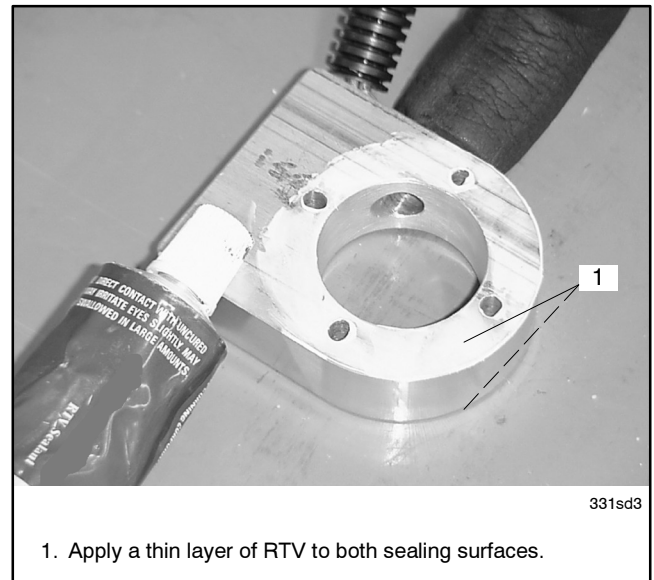

Figure 9 RTV Sealant
- 5.1 Apply a thin layer of RTV to both sealing surfaces of the heater. See Figure 9.